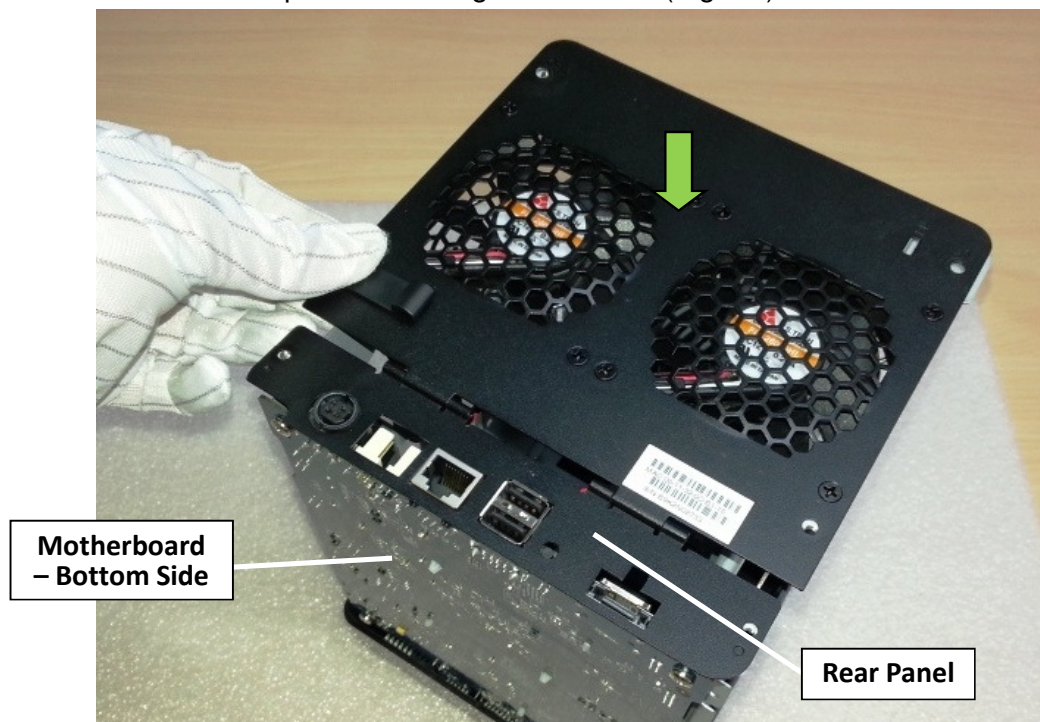

Fig. 77
3.2.6 Restore the rear panel to its original location. (Fig. 77)